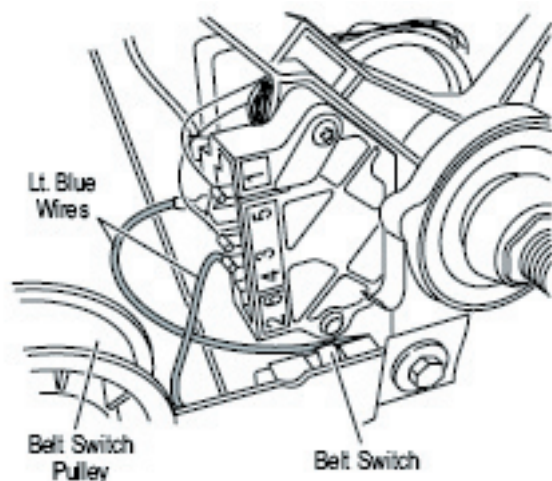

Figure 10. Checking the belt switch.
- Check the belt switch by measuring resistance between the two light blue wires, as shown in Figure 10, while pushing up the belt switch pulley.